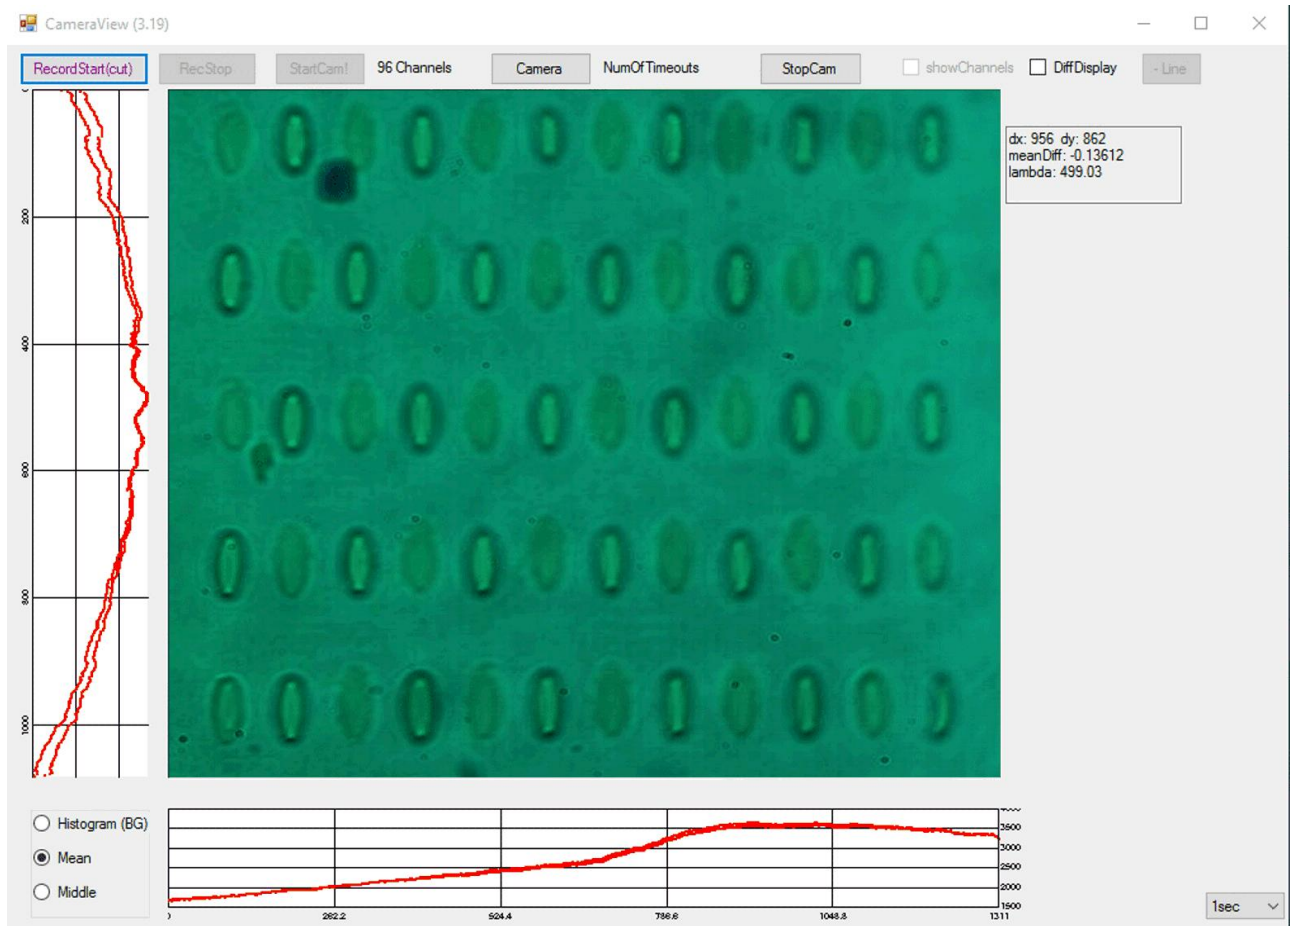

Figure 4. *Typical picture from a color camera.*
7. When the flow cell is filled with liquid, a picture analogous to that shown in **Figure 4** appears on the monitor.
When the flow cell is filled with liquid but the picture on the monitor is not analogous with what is shown in **Figure 4**, and there are many dark spots, either the sensor chip is not clean or there are small air bubbles in the flow cell. The presence of air bubbles on the surface of the sensor chip is clearly visible on the image from the color camera as dark spots. If they corrupt the spots under investigation, discard the data from these areas or remove the sensor chip, rinse and dry it thoroughly.